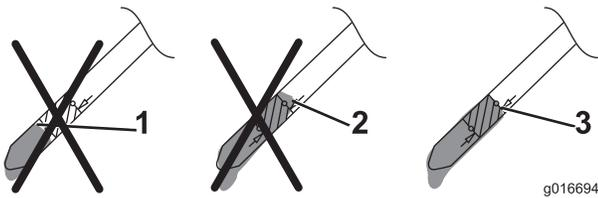

Figure 7
- If the oil level is too low, **slowly** pour a small amount of oil into the oil-fill tube, wait 3 minutes, and repeat steps 3 through 5 until the oil level on the dipstick is correct as shown in Figure 7.